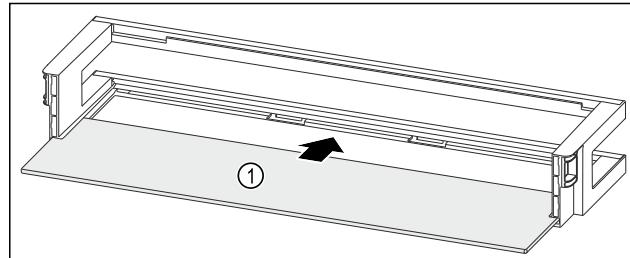

Fig. 90 Door racks with shelf
- ▶ Push the shelf *Fig. 90 (1)* into the side cutouts.